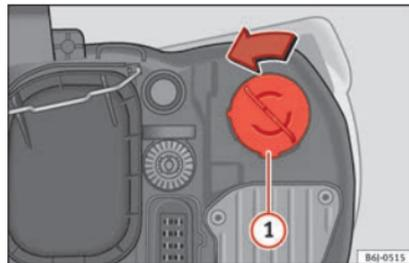

Fig. 98 Turn signal light.
- Turn the bulb holder »» Fig. 98 ① to the left and pull.